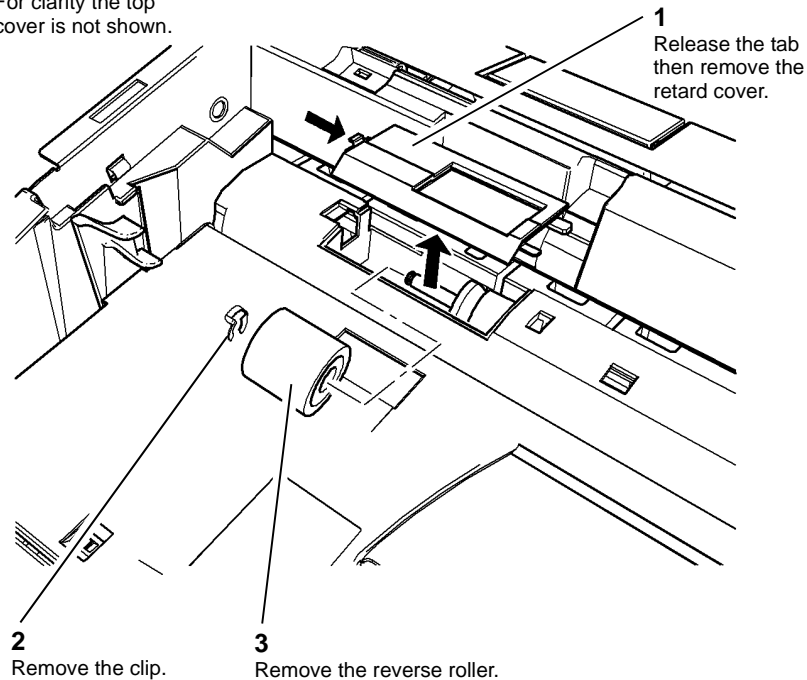

Figure 2 Reverse roller removal
- Remove the reverse roller shaft, Figure 2.